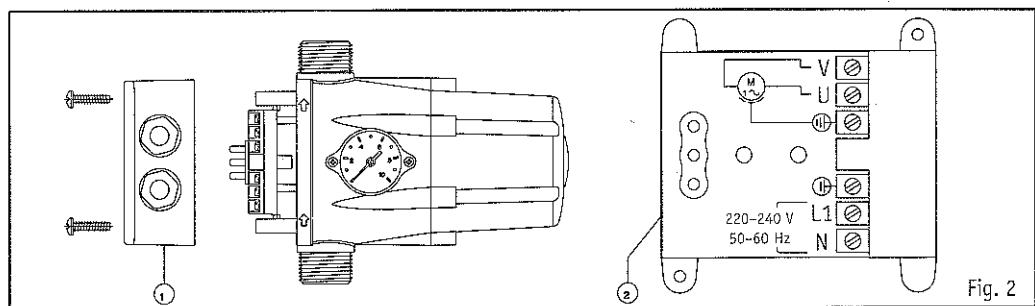

Fig. 2
## ELECTRIC CONNECTION (fig. 2)
- d) Incorrect electric connection: Verify the connections according to fig. 2